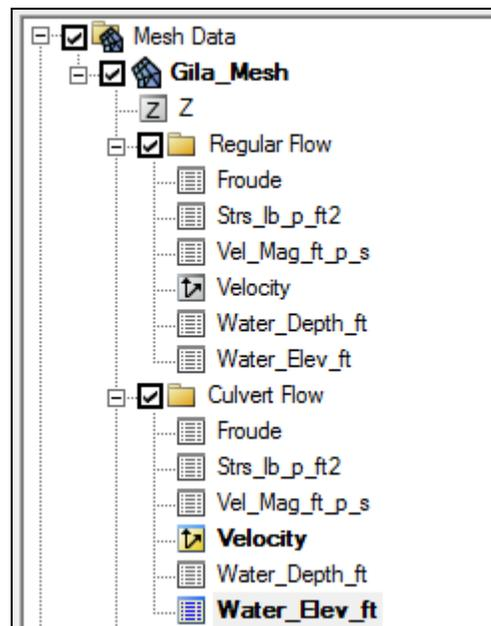

Figure 6 Mesh Dataset Organization
4. Drag the selected datasets below the “ Culvert Flow” folder that was created in steps 1 and 2. The datasets should be organized as shown in Figure 6.